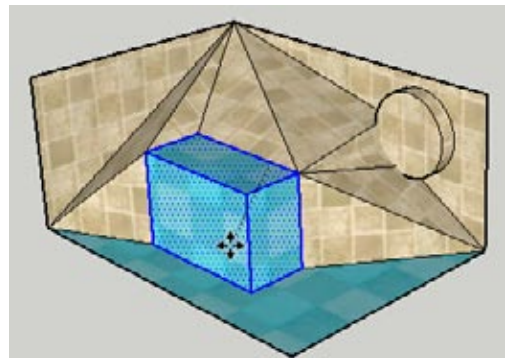

Figure 6-28
- If you select and move the bureau, the walls and floor become distorted (Figure 6-28), because two edges of the bureau are shared with the walls and floor, and they remain stuck together while moving. (You should recognize this problem from Recipes 6.1 and 6.2.)